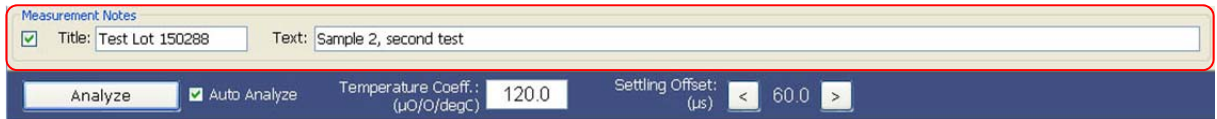

Figure 18B: Test Measurement Notes
4. Enter or verify test notes, if desired (Fig. 18B). The notes will be saved along with the measurement.